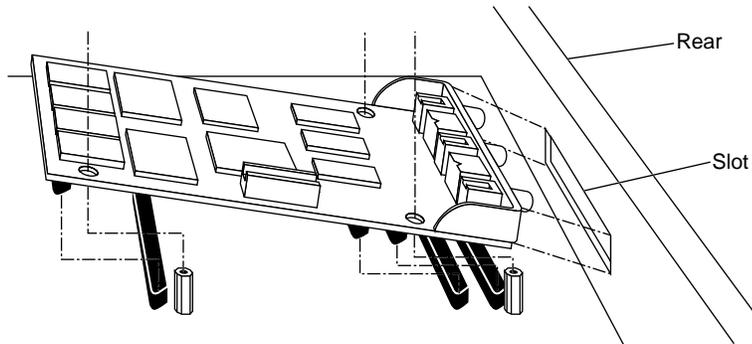

Figure 1-26 Inserting the GIO Board's I/O Connector Through the Backplane
- Lower the GIO option board over the graphics board, inserting the GIO board's I/O connector through the open slot on the rear of the workstation, as shown in Figure 1-26.